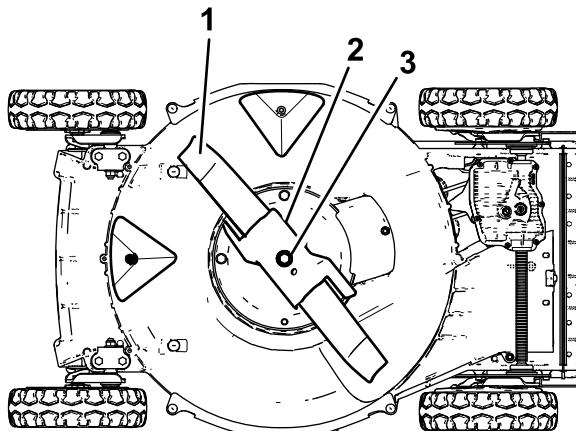

Figure 26
- Use your finger to coat the gasket on the new oil filter with oil (Figure 26).
5. Tip the machine onto its **right** side (air cleaner up) as shown in Figure 26.